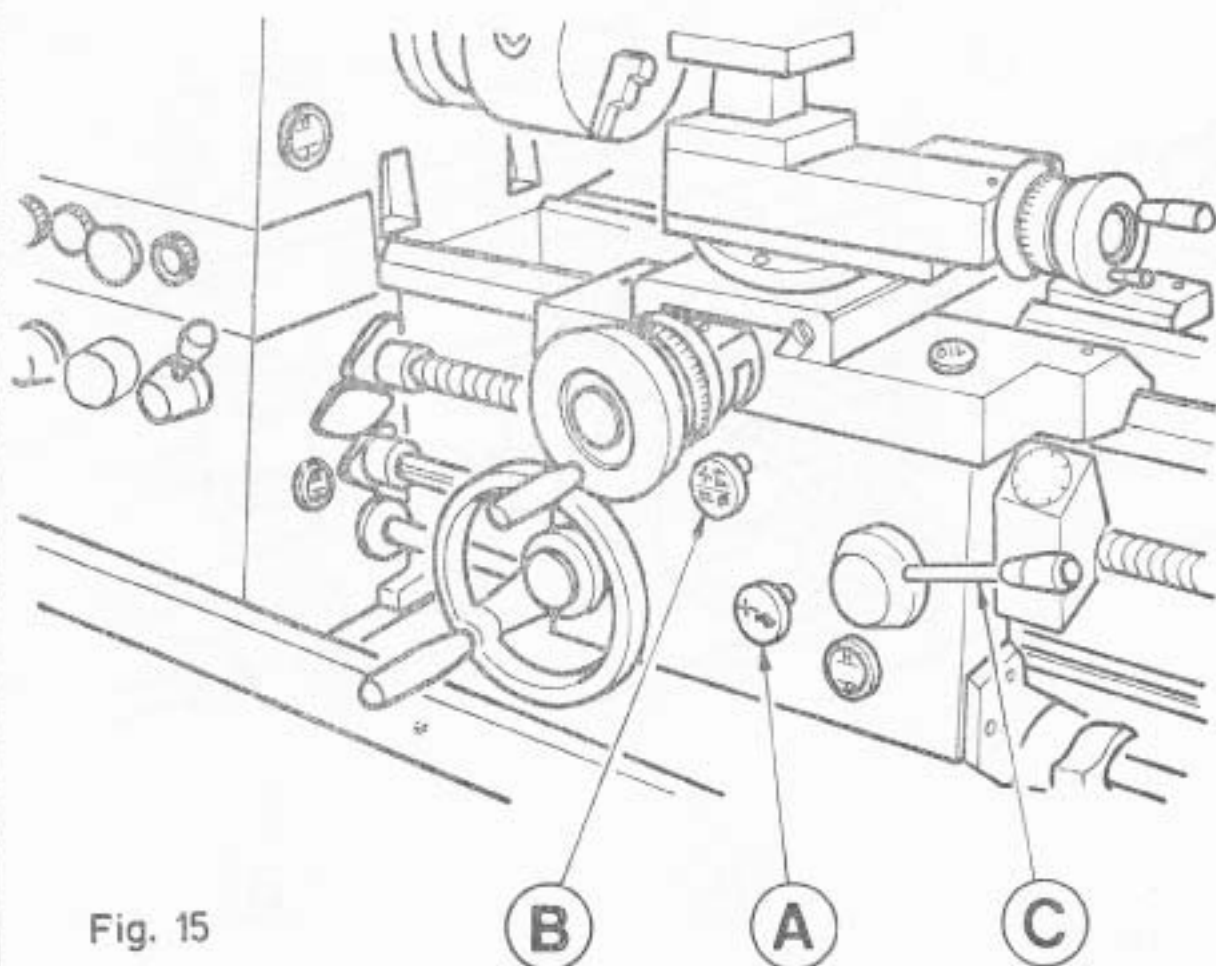

Fig. 15
In addition to handwheel traverse, the carriage can be power-operated through controls on the front of the apron, see Fig 15 knob (A) is pulled out for power feed engagement and pushed in for manual operation.